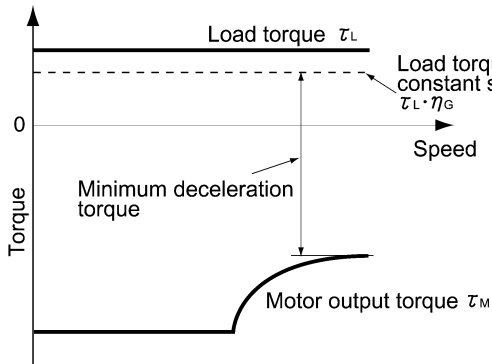

Figure 10.2-3 Example Study of Minimum Deceleration Torque (1)
- 2) Calculate the **minimum deceleration torque** (See Figures 10.2-3 and 10.2-4.)